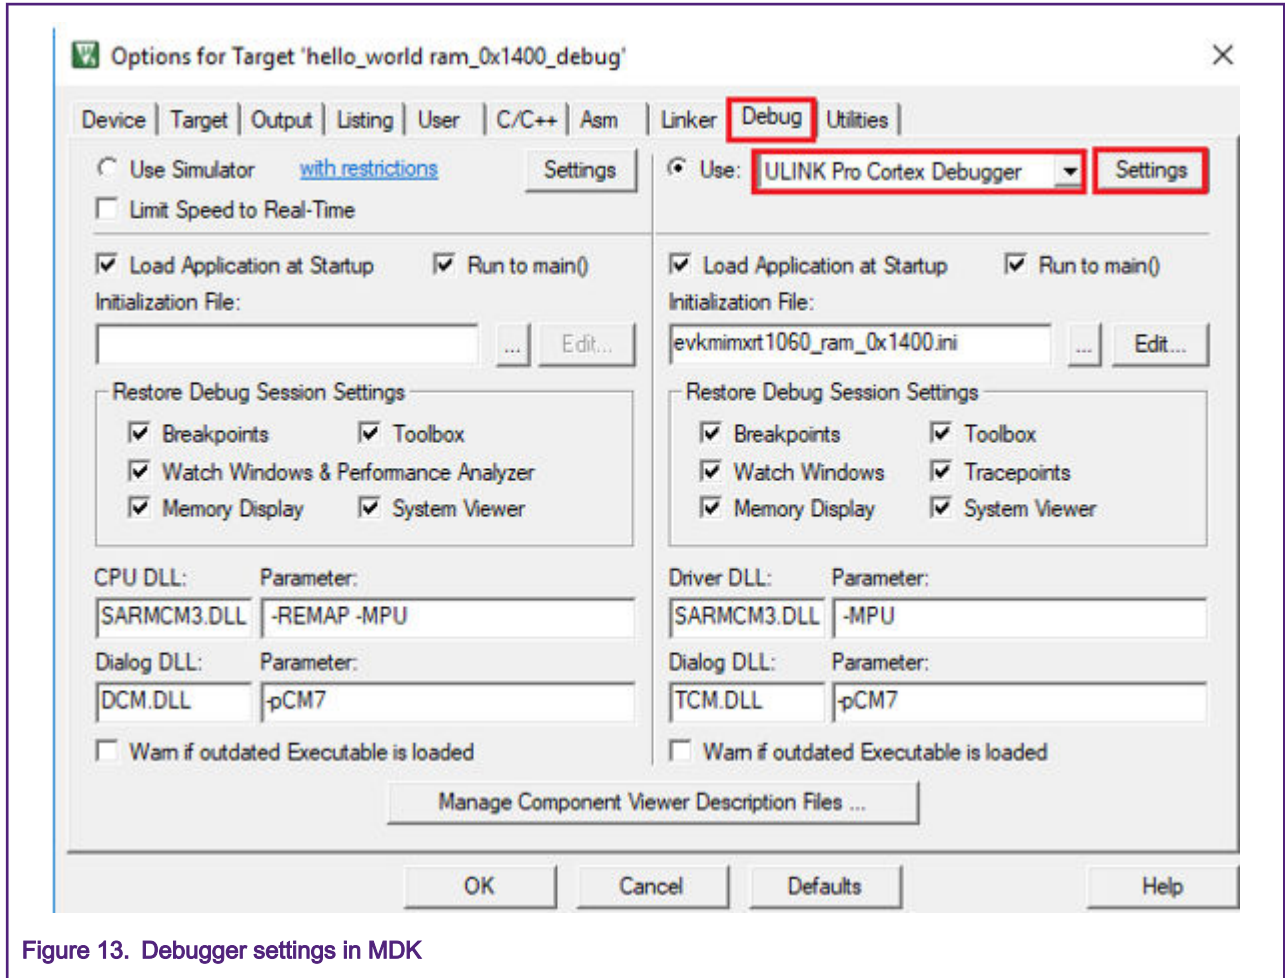

Figure 13. Debugger settings in MDK
1. Connect the ULINK Pro to the target board, the reworked MIMXRT1060-EVK. Select the correct debugger and click **setting**, as shown in Figure 13.